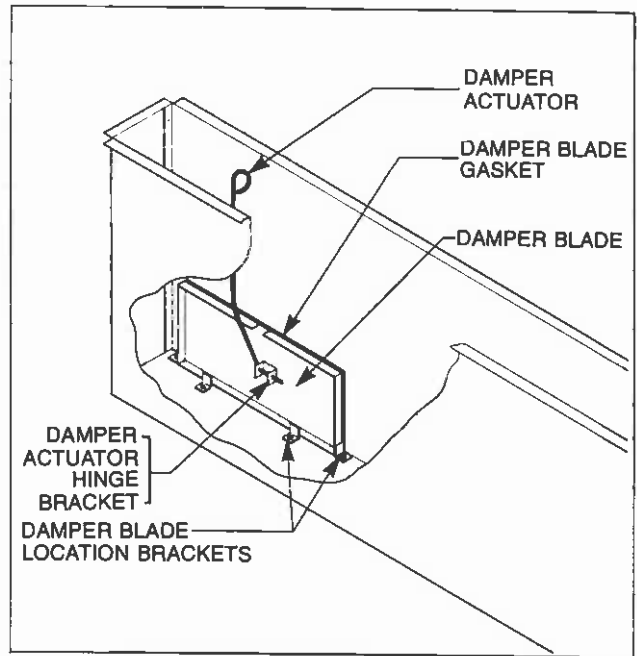

Fig. 9. Attach Damper Blade.
Attach Damper Actuator and position Damper Blade into the four (4) Damper Blade Location Brackets as shown in Fig. 9.
2. Open the outside air kit damper by moving the damper actuator to the open position. (See Fig. 9).
3. When the fire is out and outside air is no longer required, close the outside air damper by moving the damper actuator to the closed position. (See Fig. 9).